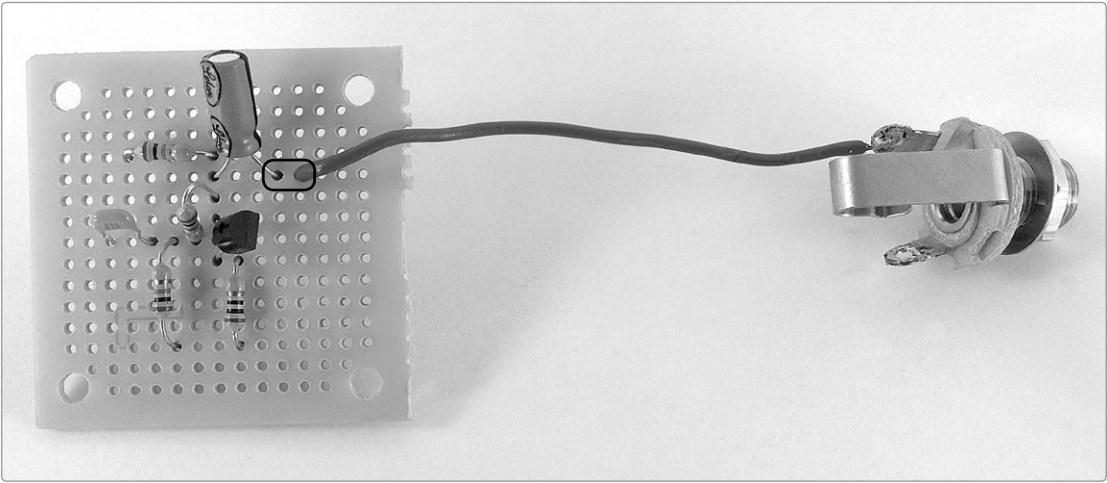

FIGURE 12-16: *Adding the output jack*
- Step 19** Start with the output jack, which is the jack without a potentiometer attached. It has one insulated lead. Insert this into the first open hole to the right of the negative leg of the 10 μF output capacitor (see Figure 12-16). Solder the output lead to its pad and the negative capacitor leg to its pad, and then solder the two to each other. Clip the excess wires.